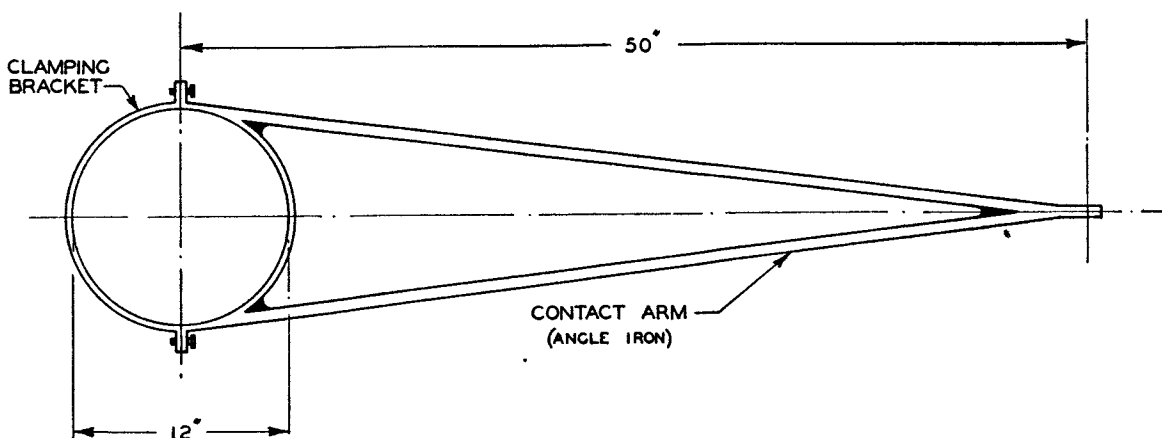

Fig. 2—Backlash analyser contact arm
81. The principle of the backlash analyser is to use a voltage generator in the rotor of the azimuth or elevation control transformer, suitably amplified, to act as an accurate position marker indicating the azimuth or elevation of the paraboloid. After rotation, the pedestal is returned to its original position, as indicated by a centre-zero meter on the analyser and any mechanical displacement is read on a clock gauge. Fig. 1022 gives the circuit diagram of the analyser and fig. 2 gives details of the contact arm to be fitted to the pedestal. Both should be made in workshops when required.